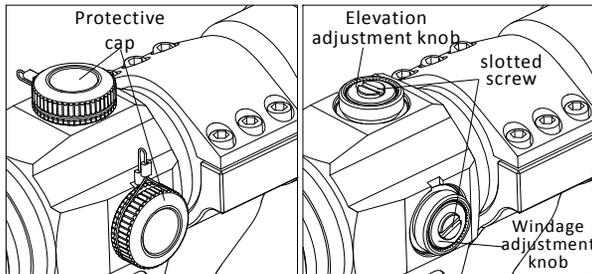

Fig 6
1. On top of sight is the elevation adjusting turret, windage adjusting turret is on the right side (see Fig 6). The sight has been factory adjusted for approximate zero.
2. The built in screw driver tool on the protective cap can be used for zeroing adjustment (see Fig 6). See label inside cap.
3. First open the protective cap (see Fig 6), position slot type screwdriver on the slotted screw, then rotate the screw to right or left for adjustment. Each left or right click is for one adjustment equivalent to 0.5MOA value.